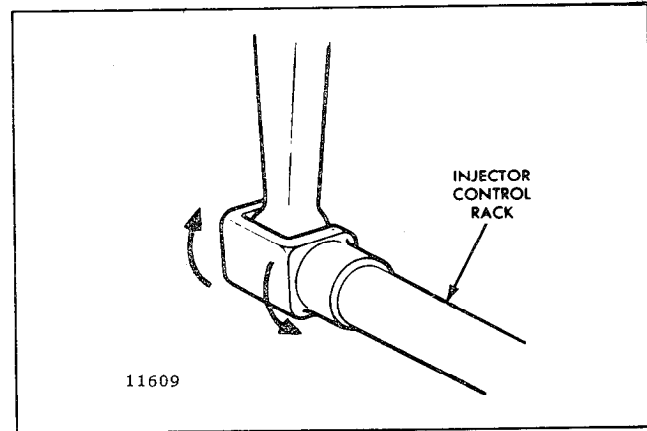
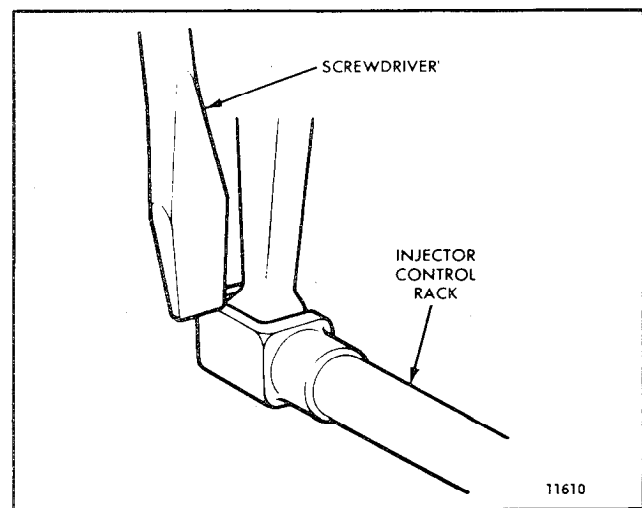

Fig. 4 - Checking Rotating Movement of the Injector Control Rack
Fig. 5 - Checking Injector Control Rack "Spring"
7. To be sure of the proper rack adjustment, hold the speed control lever in the maximum speed position and press down on the injector rack with a screw driver or finger tip and note the "rotating" movement of the injector control rack (Fig. 4). Hold the speed control lever in the maximum speed position and, using a screw driver, press downward on the injector control rack. The rack should tilt downward (Fig. 5) and when the pressure of the screw driver is released, the control rack should "spring" back upward.